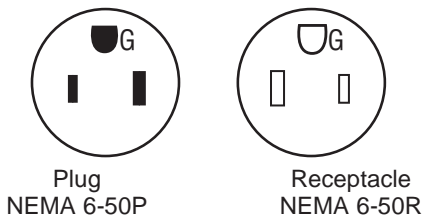

Figure 2
2. Heater includes a cord with plug. Receptacle must be NEMA 6-50R to match with unit plug (see Figure 2).